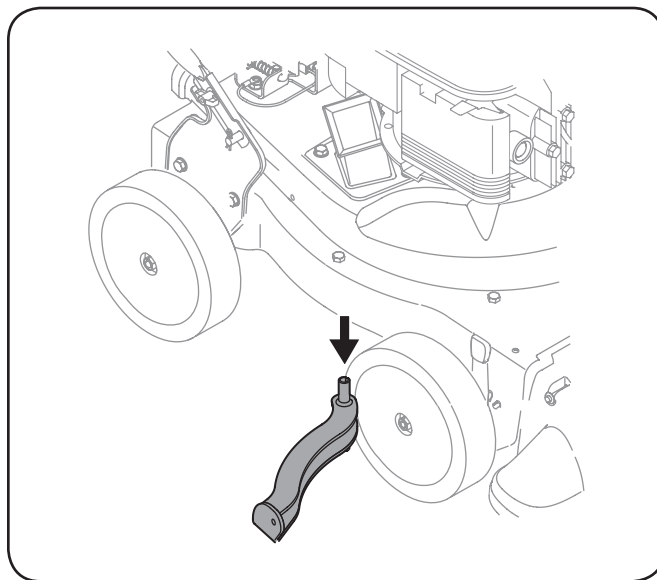

Figure 6-3
4. Remove self tapping screw on right side of unit that attaches to the flail screen. See Fig. 6-3.
6. Remove and clean the screen by scraping or washing with water. See Fig. 6-3.